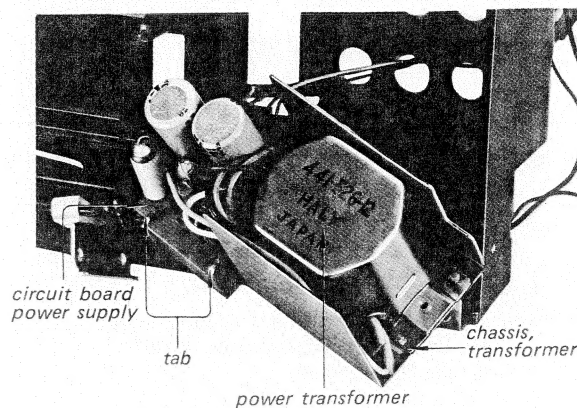

Fig. 2-10. Power supply circuit board removal
5. Pull off the transformer-chassis as shown in Fig. 2-10.
6. Straighten the bent portion of two tabs with pliers shown in Fig. 2-10.